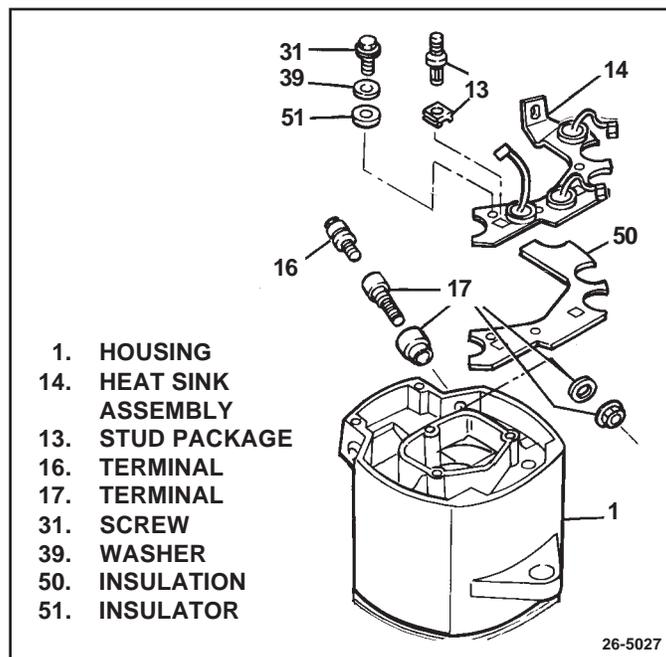

Figure 19. Removing Heat Sink from Housing
10. To replace one or more of the rectifier diodes, disconnect all diode leads from the diode junction studs (13). Remove three heat sink attachment screws (31) and insulators (51), then remove the alternator output terminal (16) by removing the inside nut, washer, and insulator (17). (See Fig 19)
Remove the heat sink and diode assembly (14) from the rectifier end housing (1). (See Fig. 19) The insulator (50) between the heat sink and housing may come out with the heat sink. If it does, carefully peel it from the heat sink. Check insulator for damage that might result in a grounded condition and replace if necessary. If insulator is to be reused, place it back in the housing to prevent contamination of the grease.